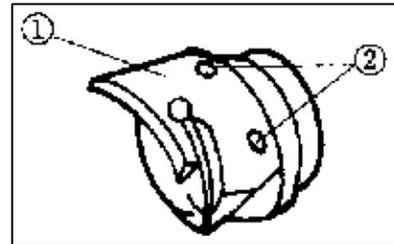

Fig.29
To change the movable knife (1), turn the pulley manually to place the needle at the highest point. Then, remove the needle plate by unfastening the two movable knife fixing screws (2) as seen in Fig.29. Follow these instructions in reverse order to assemble.